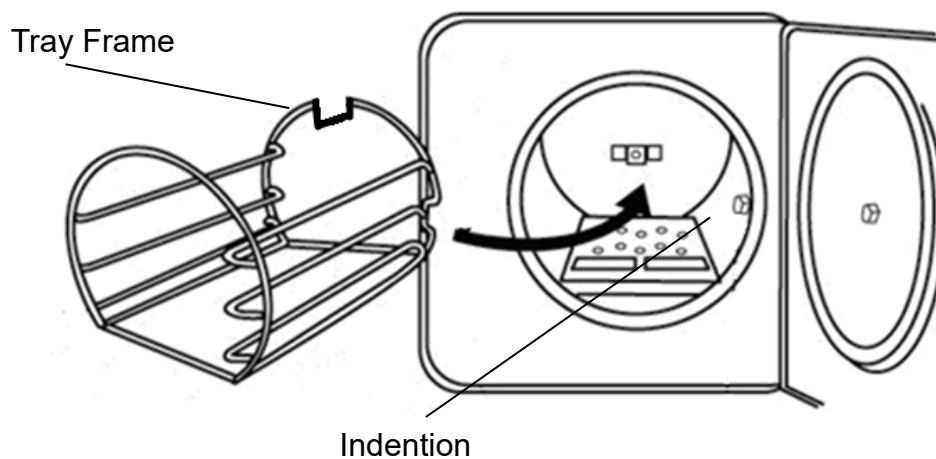

Figure 31
- F Install the tray frame as shown in Figure 31 (standard accessory)
CAUTION: The frame should be installed as in Figure 31 below. The indentation of the frame will pass the bushing in the chamber.